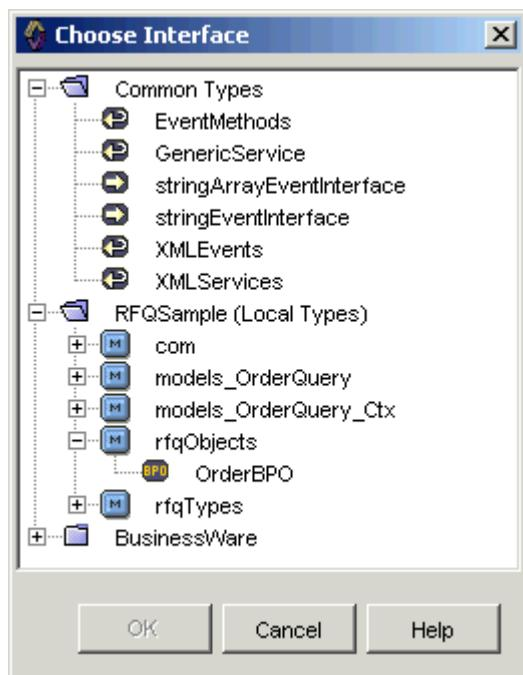

Figure 5-4 Choose Interface Dialog
1. Click **Browse...** to open the Choose Interface dialog (Figure 5-4).